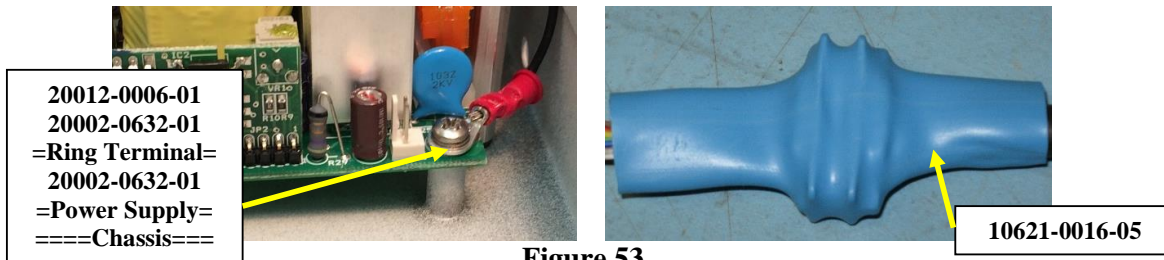

Figure 53
- 20.3. Attach the Ring Terminal to the Power Supply and Chassis using a 6-32x¾" Pan Head Screw (20012-0006-01) and two (2) #6 Lockwashers (20002-0632-01) as shown in Figure 53 (left).
- 20.4. Cut 3" of 1" Blue Heat Shrink Tubing (10621-0016-05) and pass the IRB cable (now coming through the hole in the Chassis from the display) through it. Connect the DB9 connector of a MB80580 COM Cable (10369-0020-04) to the DB9 connector on the IRB Cable. Remove the protective shroud from the DB9 end of the COM Cable and discard. Heat the Shrink Tubing over both connectors as shown in Figure 53 (right).